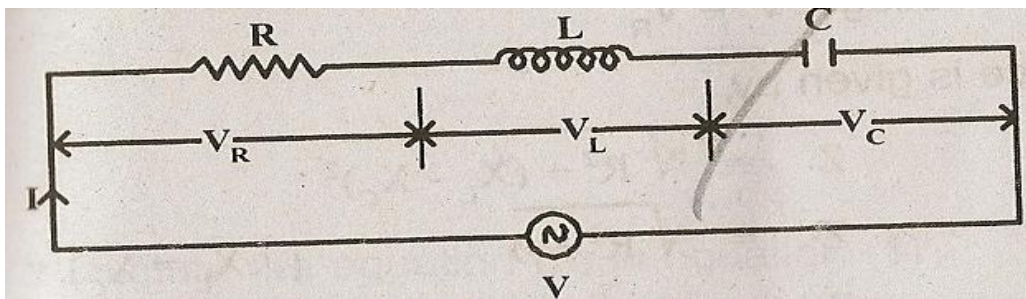

Fig. 2.38(a)
In a series resonance circuit, resistor (R), inductor (L) and capacitor (C) are connected in series across a sinusoidal voltage of variable frequency source. An R-L-C series resonance circuit is shown in the fig.2.38 (a).